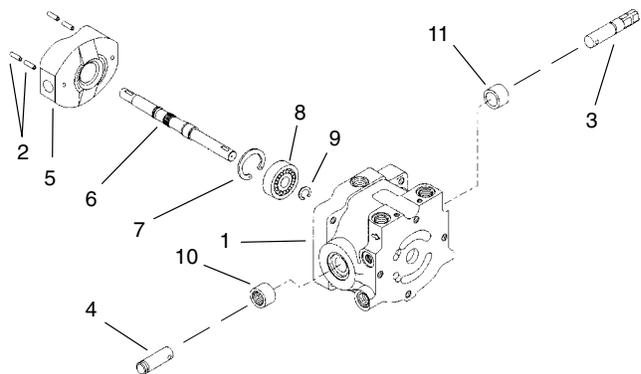

Figure 47
6. Position variable housing so the large cavity faces up (Fig. 47).
7. Drive spring pin out of the trunnion shaft and control shaft using a 3/16 inch diameter drift punch (Fig. 47).
8. Drive control and trunnion shafts outward and out of the swashplate bore. Shafts remove easily once clear of the swashplate bore (Fig. 47).
9. Remove swashplate from the variable housing. Remove retaining ring from the variable housing. Press shaft out with bearing and retaining ring. Remove retaining ring and bearing from the shaft (Fig. 47).
4. Inspect thrust plate. There should be no signs of scoring on the piston shoe contact surfaces (Fig. 47).
5. Inspect variable housing (Fig. 47).